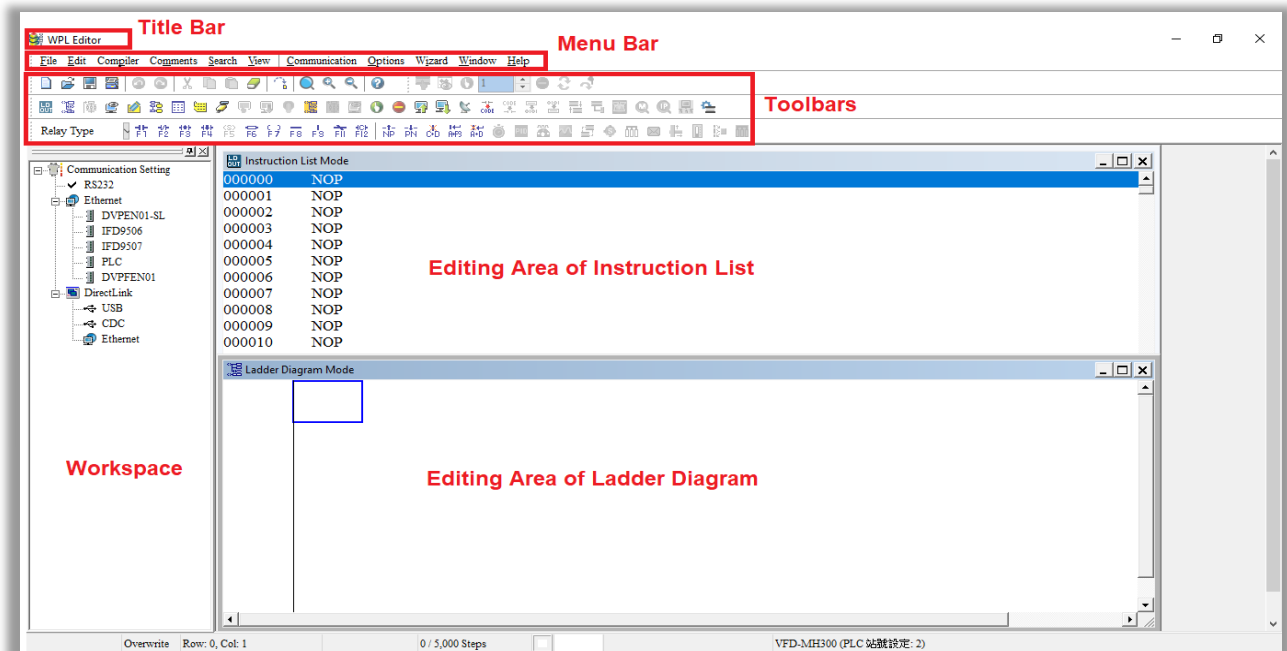

Figure 16-3
**NOTE:** After running WPLSoft for the second time, the last file edited will open and be displayed in the editing window. The following figure 16-3 provides an explanation of the WPLSoft editing software window: